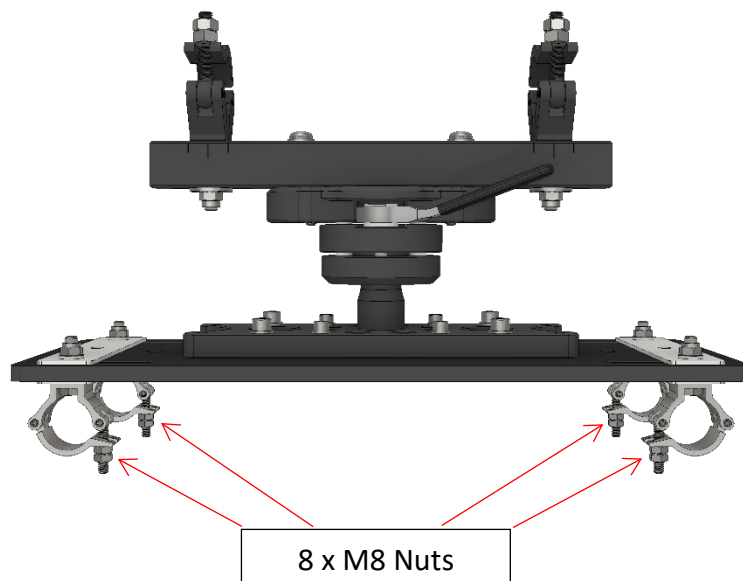

Figure 4 Rigging clamps on PORAD-XL Series
**Step 1:** Open the rigging clamps by loosen the eight M8 nuts on the clamp-threads (see Figure 4).